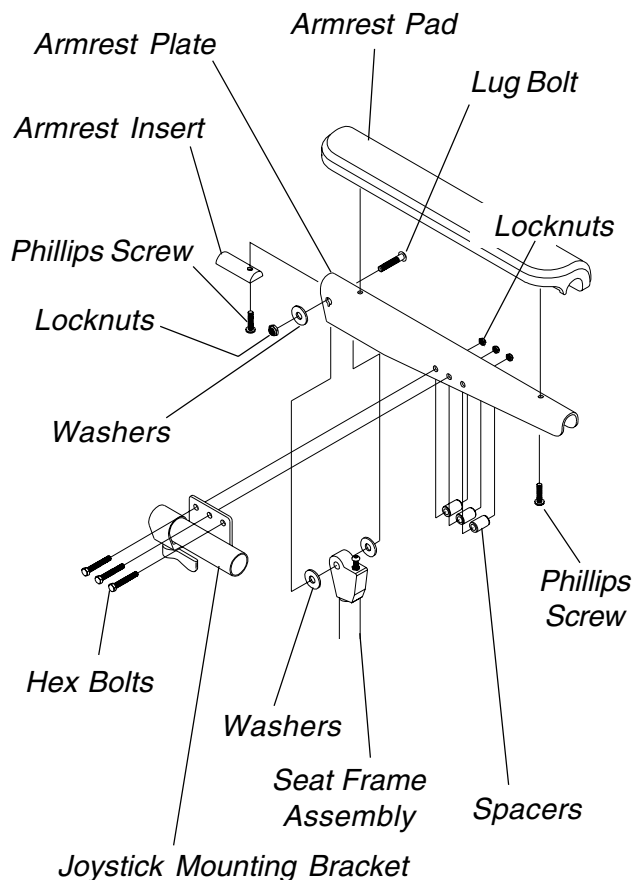

FIGURE 2 - REPLACING ARMREST PLATE
REPLACING ARMREST PLATE (FIGURE 2)
1. If necessary, remove the three (3) hex bolts, spacers and locknuts that secure the joystick mounting bracket to the armrest plate.
4. Position the new armrest plate on the seat frame assembly and secure with the lug bolt, washers and locknut. Refer to FIGURE 2 for correct hardware orientation.
6. If necessary, reinstall the three (3) hex bolts, spacers and locknuts that secure the joystick mounting bracket to the armrest plate.